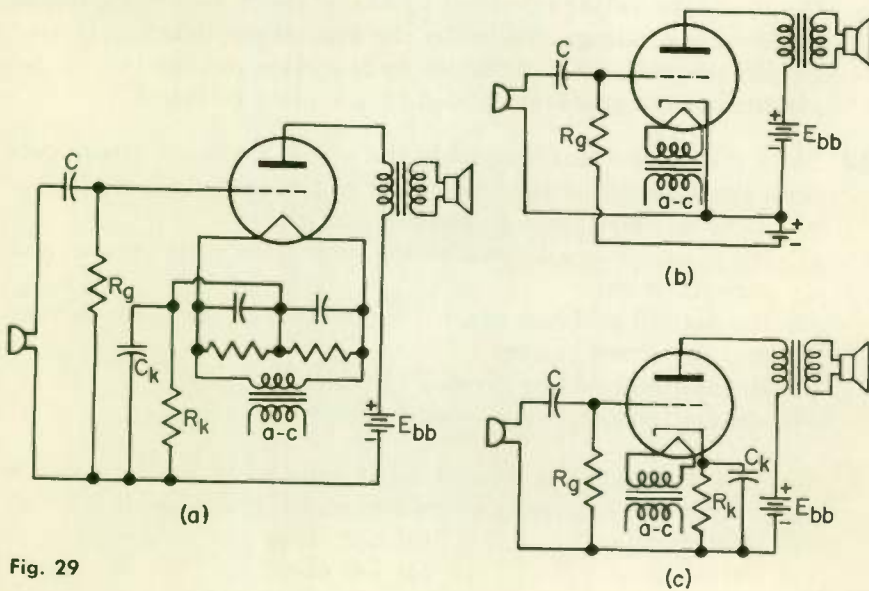

Fig. 29
- (1) has a short-circuit path to ground and the grid is drawing current
- (2) has a short-circuit path to ground and is not drawing current
- (3) plate current is zero because of the use of too high a bias voltage
- (4) has accumulated a high negative charge because of having no d-c path to ground
13. Refer to circuits a, b, and c in Fig. 29. The grid bias for an indirectly heated cathode vacuum tube is obtained by use of a resistance in the cathode circuit of diagram:
- (1) a
- (2) b
- (3) c
14. Refer to the circuits shown in Fig. 29. The grid bias for the tube is obtained by use of a fixed voltage from the power supply in circuit:
15. Refer to the circuits shown in Fig. 29. The grid bias for a directly heated filament-type vacuum tube is obtained by use of a cathode resistor in diagram: